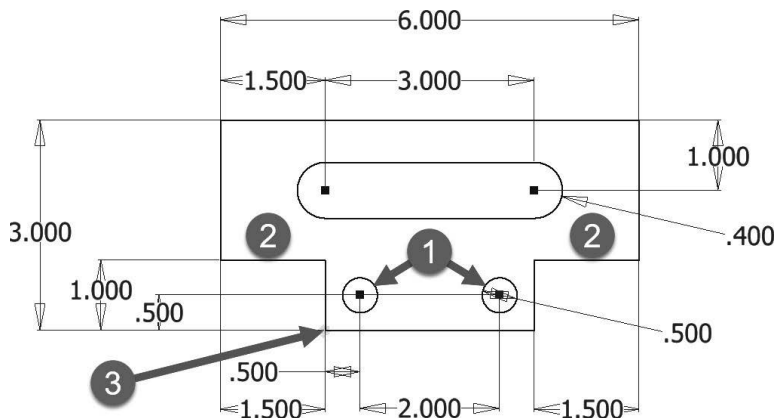

Figure 2.94
14 Apply a horizontal constraint between the center points of the two circles labeled (1) in Figure 2.94.